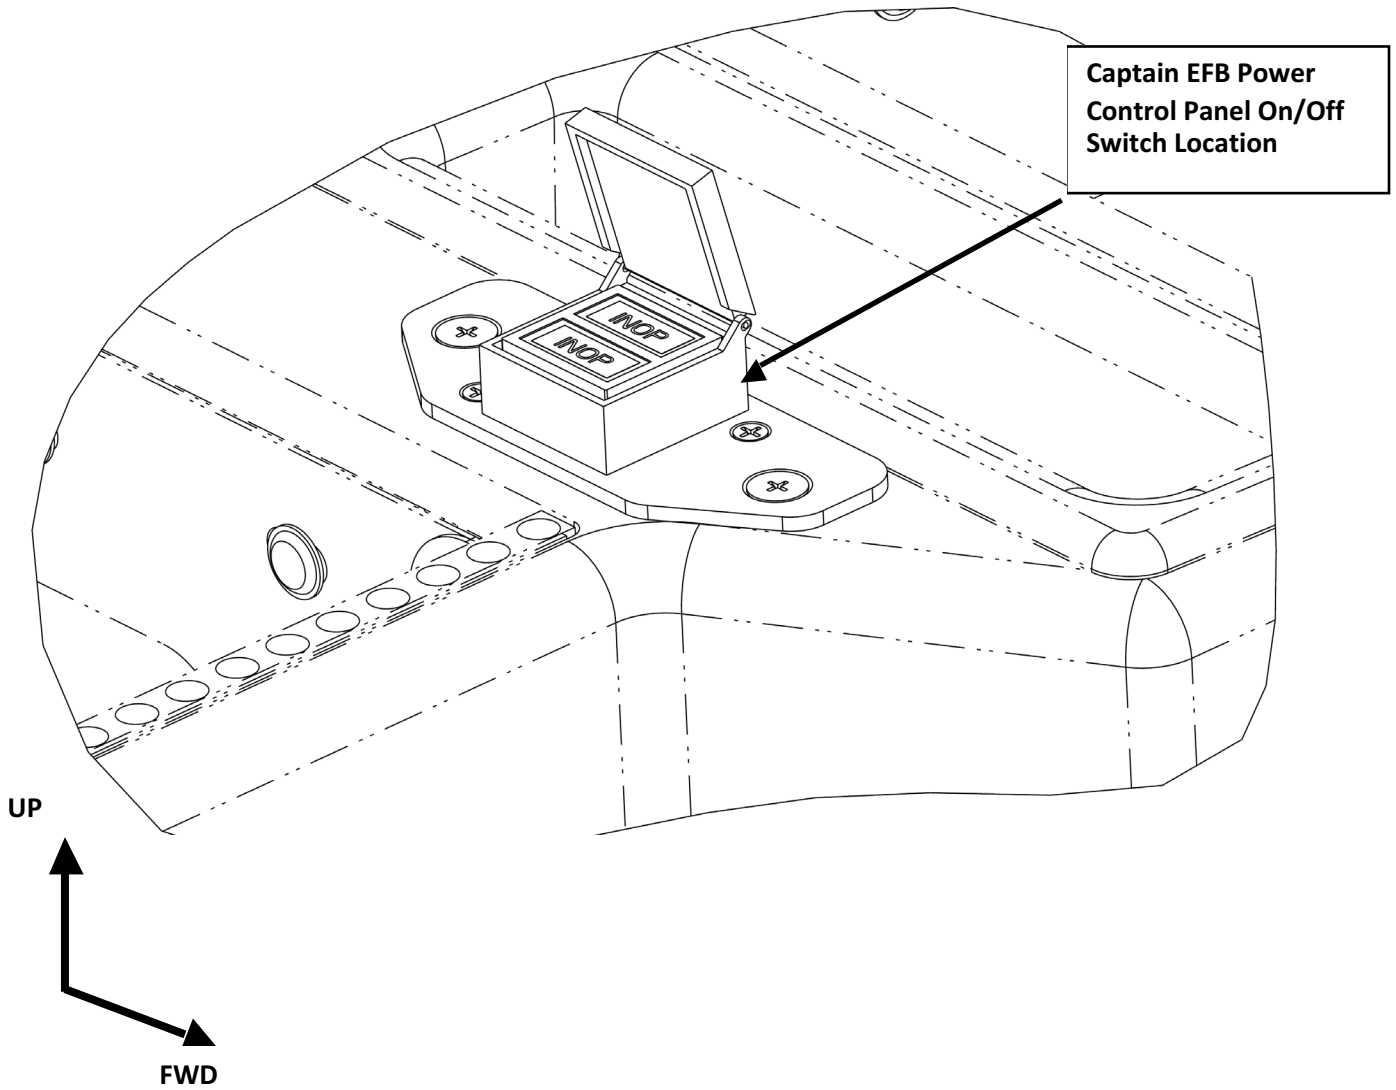

Figure B4: Captain's EFB Power Control Panel Installation (First Officer's Side is a Mirror Image)
- » Remove the existing 'INOP' placard from the captain's EFB power control panel. See Figure B4. The first officer's installation is a mirror image.